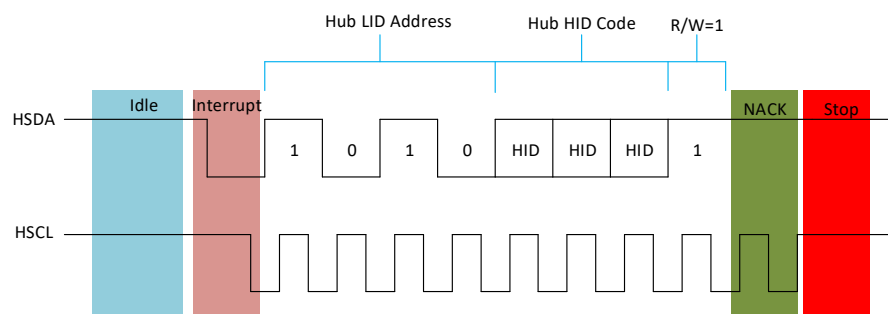

Figure 10 SPD5 Hub Interrupt - Host NACK Followed by STOP
- b. The Host sends NACK on the 9th bit as shown in Figure 10 followed by a STOP command. In this case, the SPD5 Hub device does not transmit the IBI payload and waits for the next opportunity to request an interrupt. At this point, though Host sent an NACK, it does have a knowledge of which SPD5 Hub device sent the IBI request. The SPD5 Hub retains the IBI status flag MR48[7] = '1' and Pending Interrupt Bits[3:0] = '0001'. shows the first two data bits of the MDB byte to illustrate the timing.